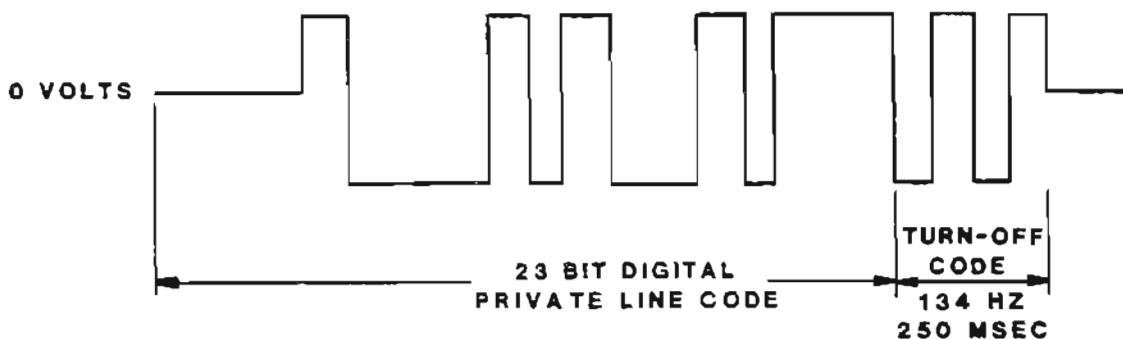

FIGURE 3.8-1. DPL OUTPUT
3) Press the **SEND** key to send the data. The data will be sent as shown in Figure 3.8-1. The **INVERT** key may be used to control the polarity of the data sent. If you get an error message, then either a digit in the DPL code you entered was larger than seven (7) or you entered more or less digits than are in a three digit code number. Valid DPL codes are listed in Table 3.8-1